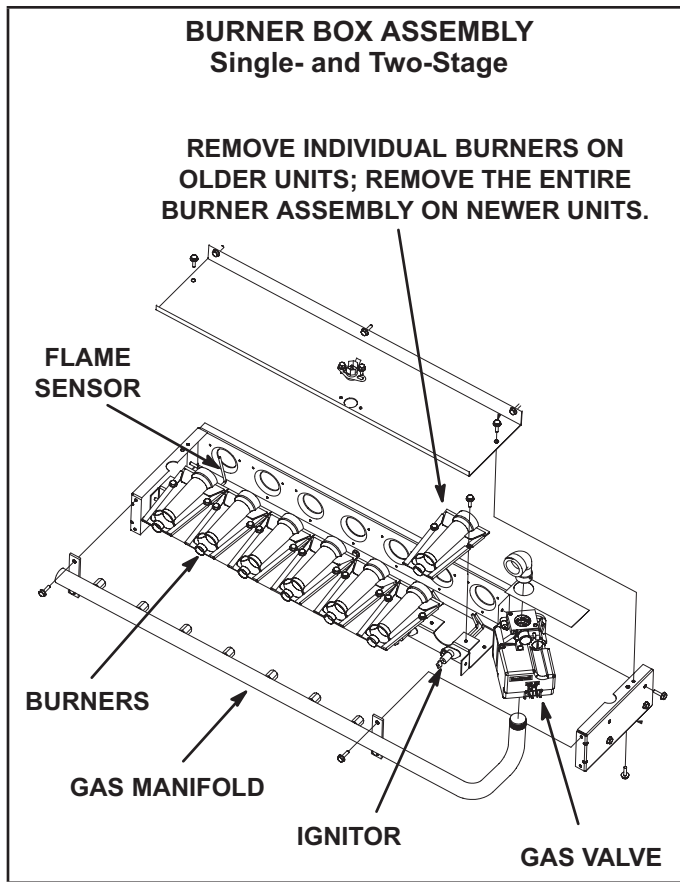

FIGURE 35
- 4 - Remove screws securing burners to burner support and lift the individual burners or the entire burner assembly from the orifices. See FIGURE 35. Clean as necessary.